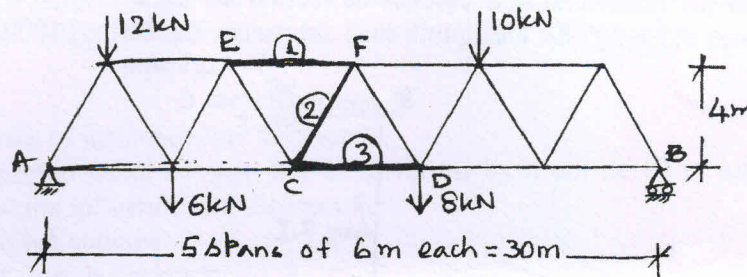

Fig.Q1(c)
c. Find the forces in the numbered members of the loaded truss shown Fig.Q1(c) using method of sections.